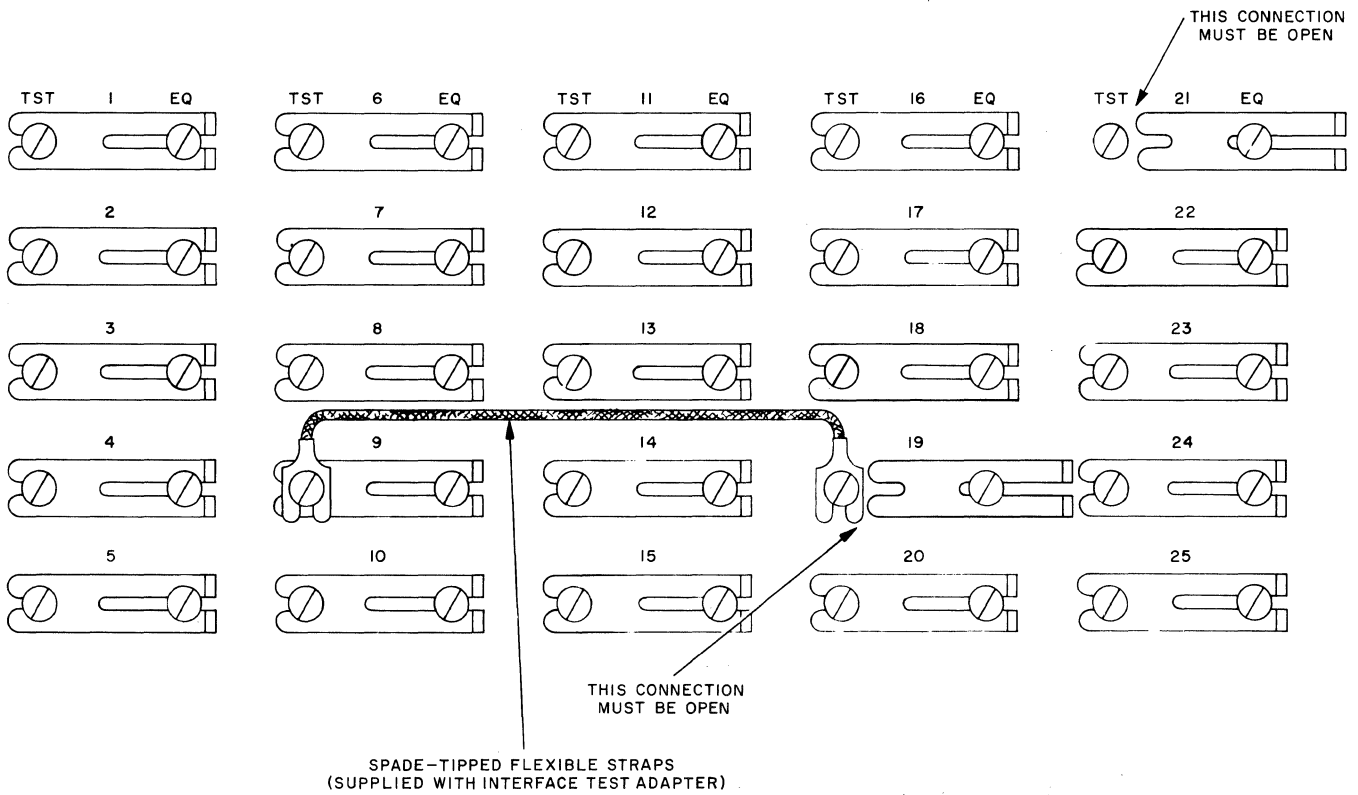
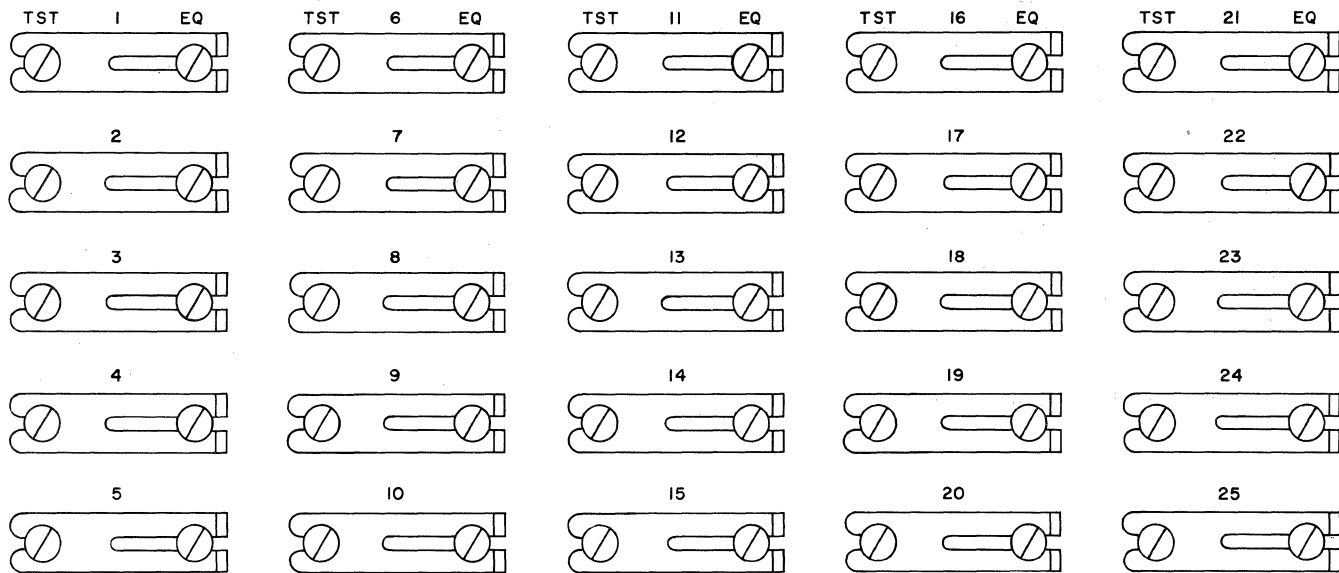

Fig. 4—Interface Test Adapter, Connection Arrangement—Voltage Interface (Wiring Option N)
Fig. 5—Interface Test Adapter, Connection Arrangement—202A/B Type Interface (Wiring Option *M*)
3.03 The interface test adapter shall be arranged as shown in Fig. 4 for sets wired for voltage interface (wiring option *N*) and as per Fig. 5 for sets wired for 202A/B type interface (wiring option *M*).
Note: In order to avoid damage to data sets arranged for 202A/B type interface, it is important that the interface test adapter *not* be connected to data set until adapter is arranged as per Fig. 5.
(1) Run two leads from the SIGNAL OUT terminals of the 903 set to TRANSMIT DATA terminals of the 901 set. (Terminals are connected red to red and black to black.)
(2) On the interface test adapter, strap or open connections as per Fig. 4 (for sets arranged for voltage interface) or Fig. 5 (for sets arranged for 202A/B type interface).
- (1) Run two leads from RECEIVE DATA terminals of the 901 set to DATA IN terminals of the 902 set. (Terminals are connected red to red and black to black.)
- (2) On the interface test adapter, strap or open connections as per Fig. 4 (for sets arranged for voltage interface) or Fig. 5 (for sets arranged for 202A/B type interface).
- (3) Connect the 903 set to the 902 set with the cord provided.
- (4) Connect 901-type Data Test Set to connector of interface test adapter.
- (5) Connect interface test adapter to interface connector of data set (in place of business machine cord).
- (6) Connect power cord of 903 set to 117-volt ac outlet. Turn power switch ON.